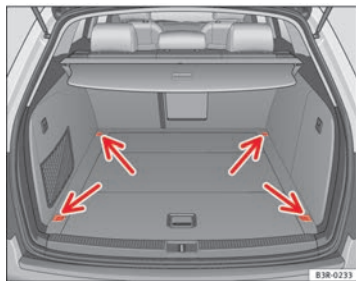

Fig. 117 Location of fastening rings in luggage compartment
- Use the fastening rings to secure the load ⇒ fig. 117 -arrows-.